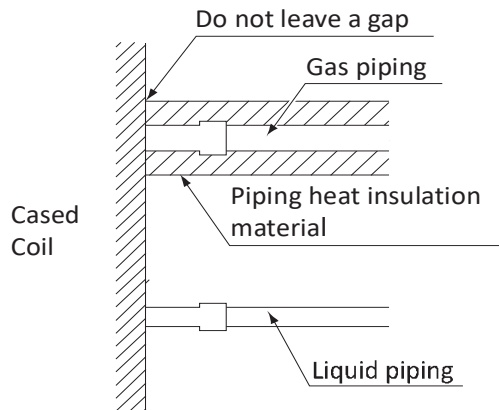

Figure 13
- After checking for gas leaks, be sure to insulate the piping connections as shown in Figure 13.